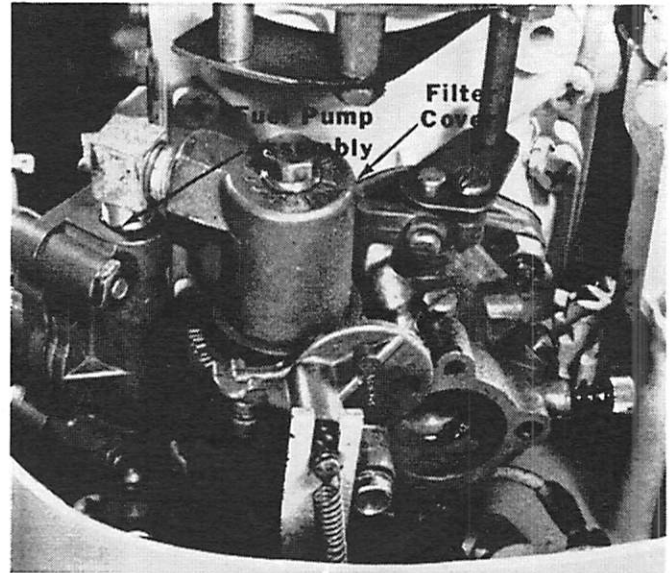

Figure 18. Installation Completed
8. When installation is completed (Figure 18), check for clearance during shifting and for easy installation of fuel tank line connector.